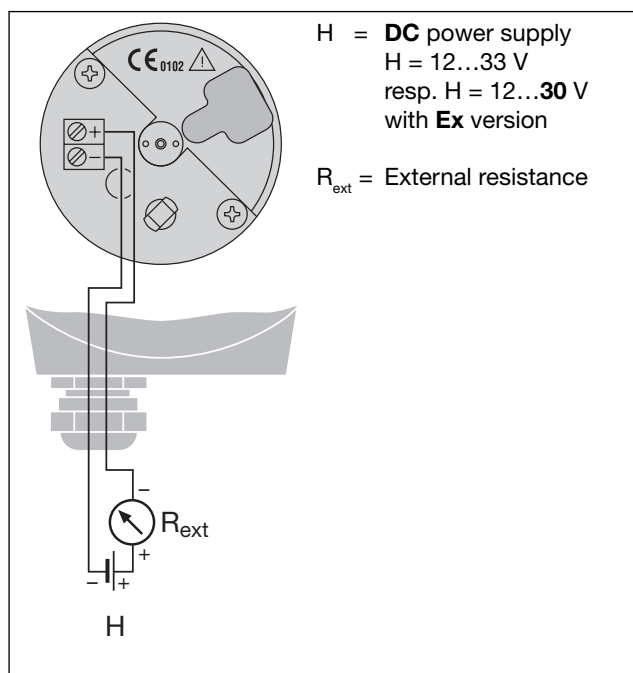

Fig. 9. Connection diagram.
Strip the insulation from a suitable length of the leads and **connect** them to the terminals (5) according to the wiring diagram (Fig. 9). Attach the leads to the support (6) with a cable strap.